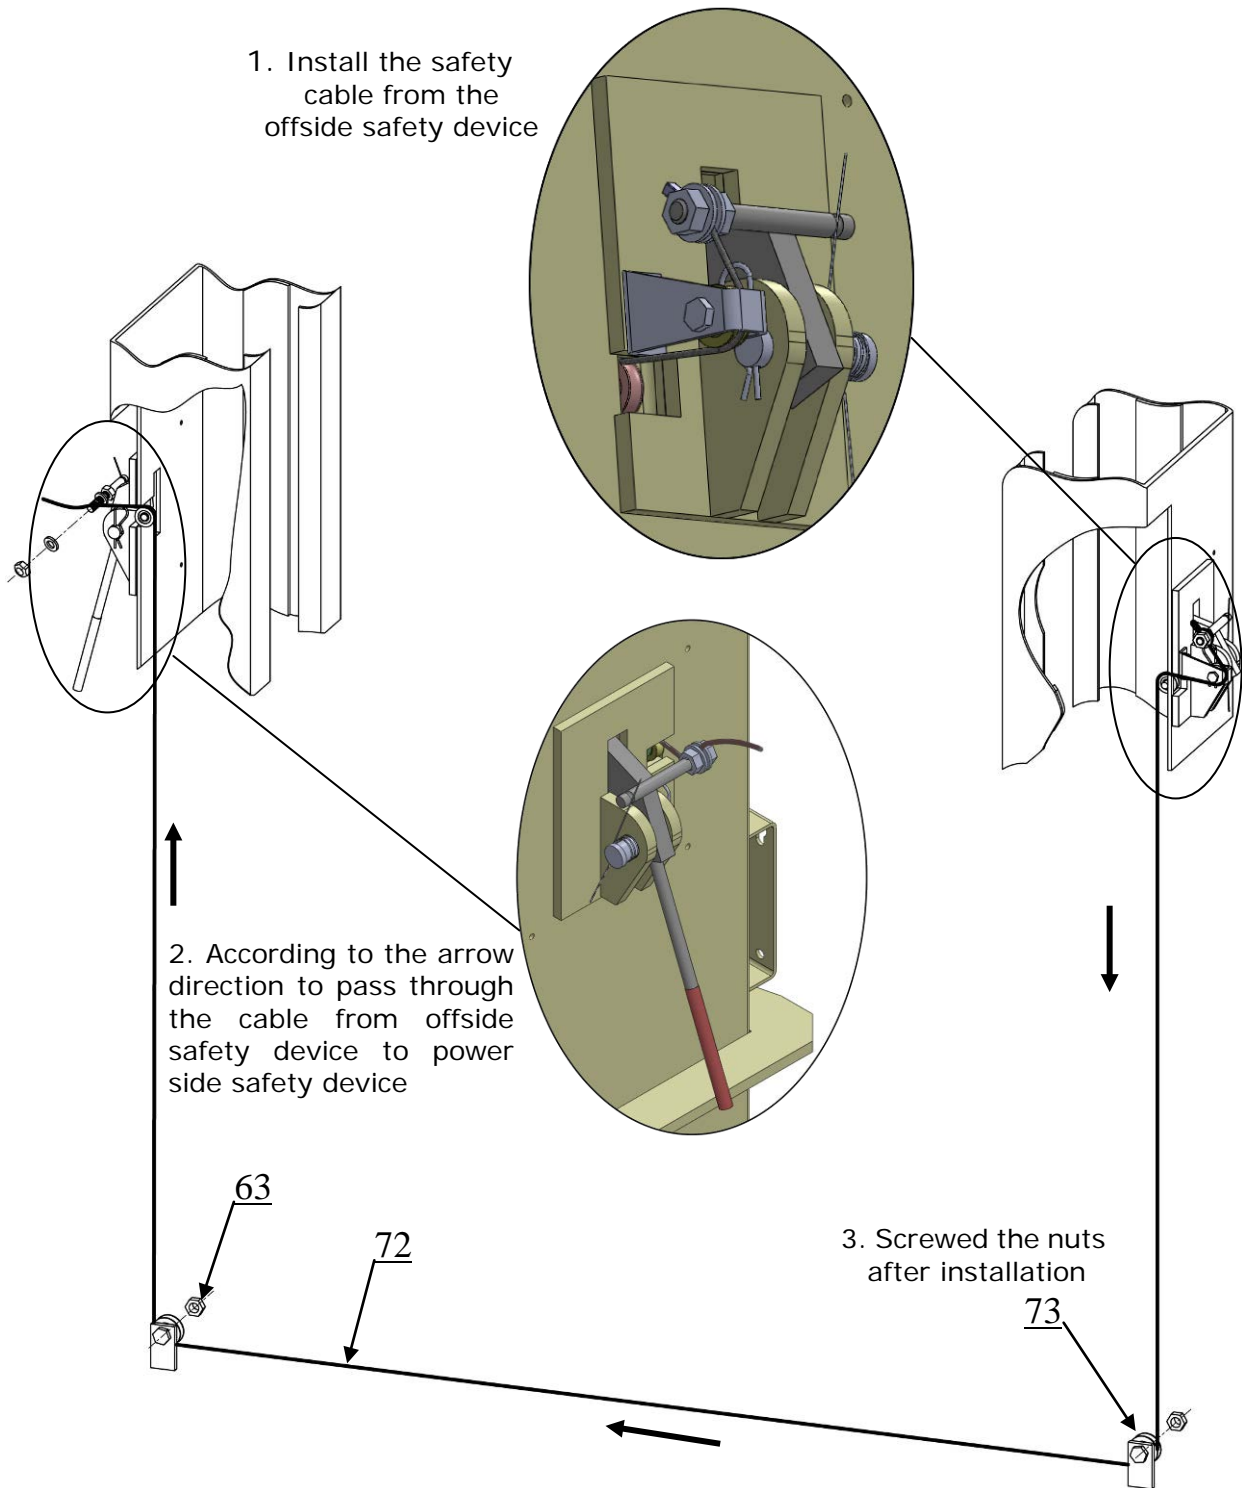

Fig. 22
J. Install cable of safety device (See Fig. 22).